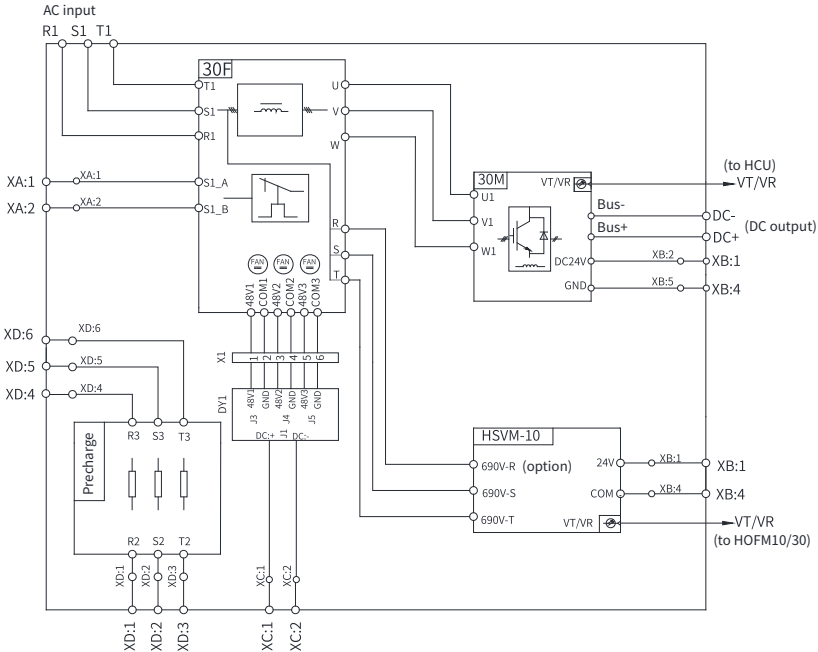
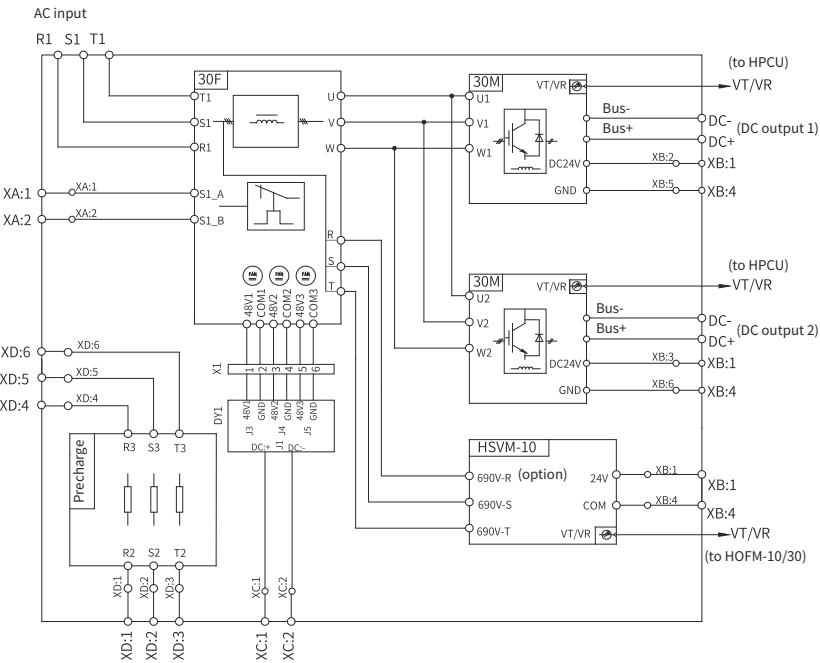

Figure 3-14 Terminals in the L+H8 frame kit
Figure 3-16 Terminals in the L+2H8 frame kit
- ◆ The three-phase voltage detection cable of the optional HSVM module needs to be connected to the terminals R, S, and T on the top of the regenerative rectifier filter module of the regenerative rectifier frame kit. The HSVM module can be installed on the reserved position at the left side of the frame. For the details on wiring, see "Figure 3-14 Terminals in the L+H8 frame kit" and "Figure 3-16 Terminals in the L+2H8 frame kit".